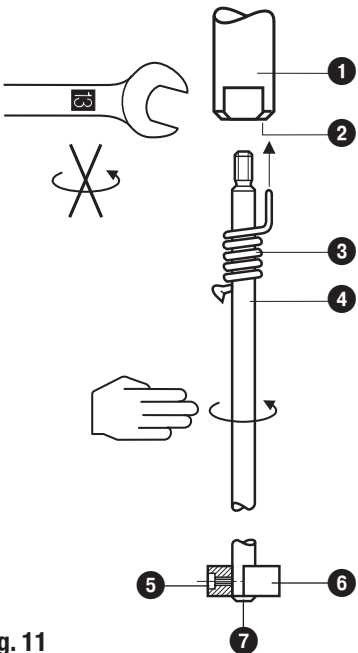

Fig. 11
1. Screw the electrode extension ④ into the measuring electrode ①. Fig. 11
3. Mark the appropriate length on the electrode extension ④ with a scribe.
4. Unscrew the electrode extension ④ from the electrode ① and cut it.
5. After a visual inspection, screw the extension ④ firmly into the electrode ①. Push the retaining spring ③ onto the electrode extension ④ until it is securely seated in the hole ②.
6. Fit the enlarged measuring surface: Push the washer ⑥ onto the enlarged measuring surface in such a way that the surface projects 0.08 in (2 mm) beyond the underside of the washer. Secure the washer with the set screw ⑤ in this position. Push the supplied retaining ring ⑦ over the electrode extension from below onto the washer ⑥.